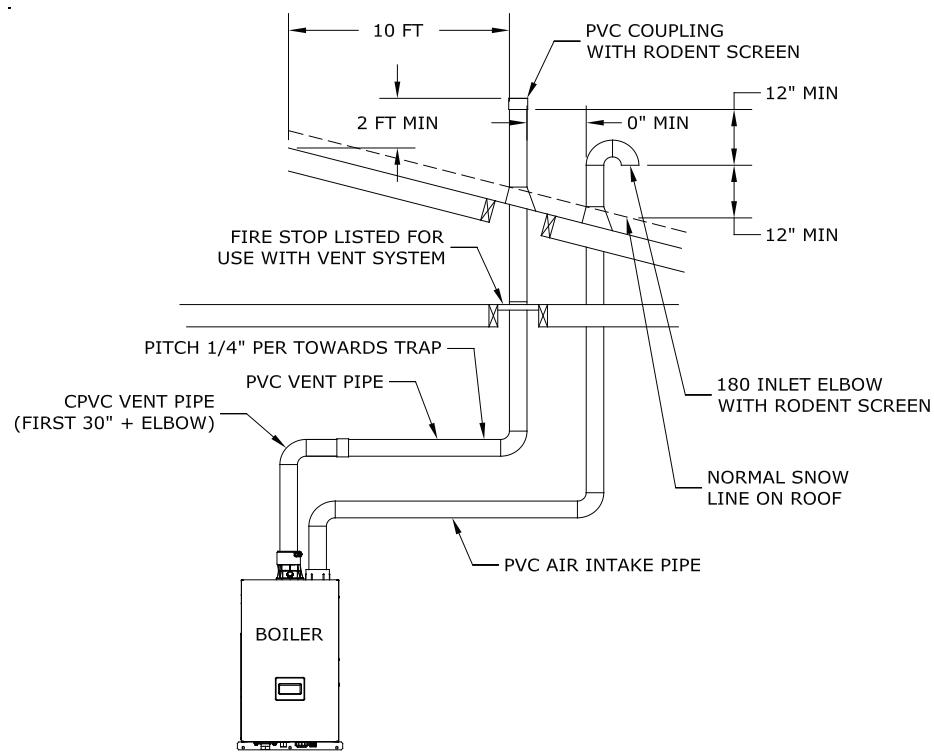

Figure 7.15: Vertical CPVC/PVC Venting (Vent Option 5, Terminal Option H)
- For terminal option H, maintain at least 12" of vertical separation between the exhaust and intake opening as shown in Figure 7.15 and 7.17.